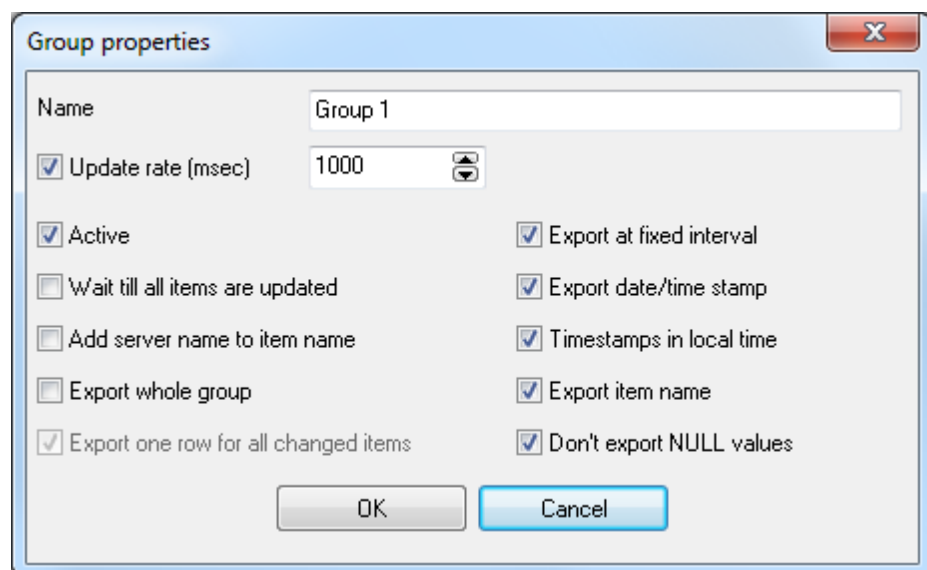

Fig. 1 Group properties
2. Create a group of DDE items in the program (fig. 1) with the properties shown in the picture.